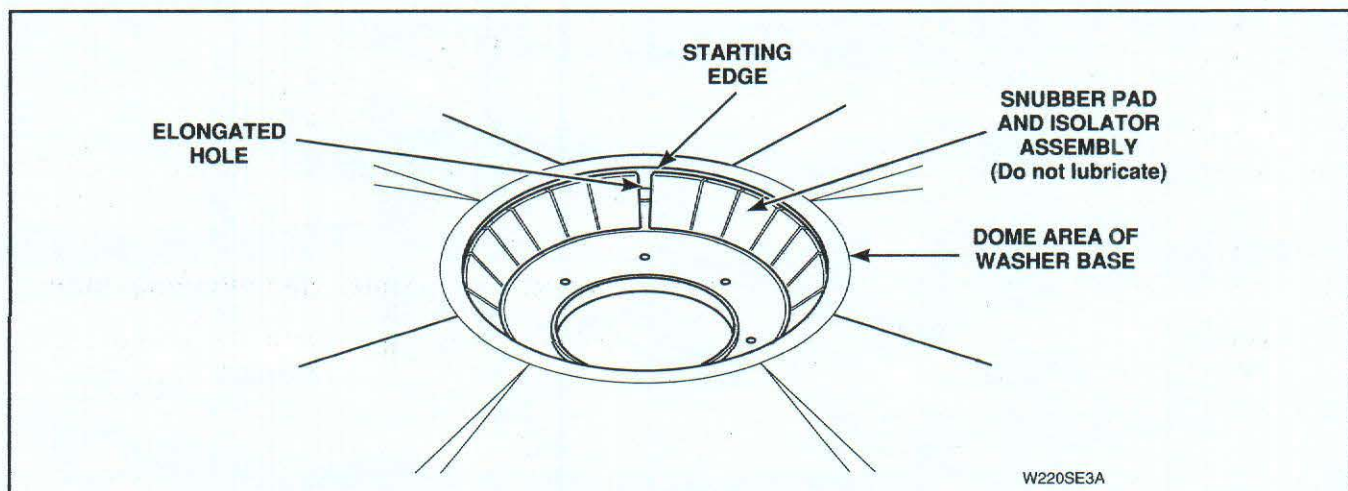

Figure 56
- Locate splint end of snubber pad and isolator assembly strip and using a flat blade screwdriver, carefully unsnap snubber pad and isolator assembly strip from pivot dome area of washer base, *Figure 56*.